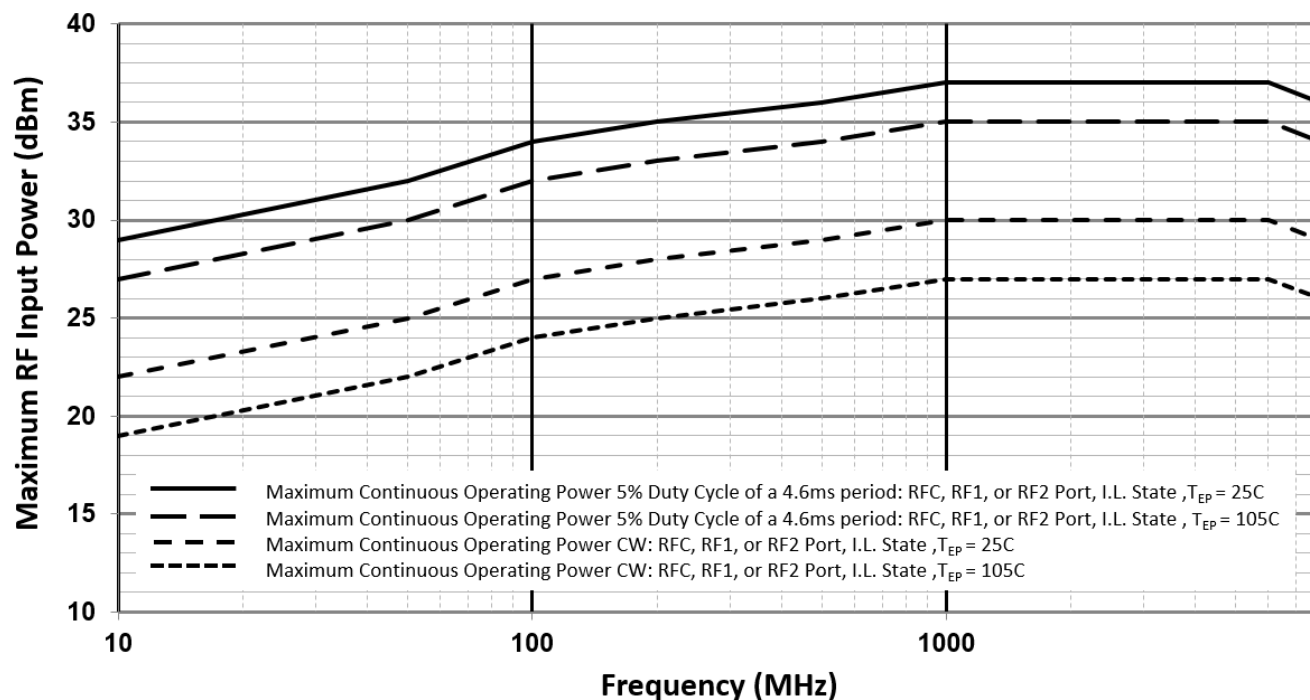

Figure 3. Maximum RF Input Operating Power vs. RF Frequency ( $Z_S = Z_L = 50\Omega$ )
| RF Input Power [2] | P RF_CW    | CW, insertion loss state                            | See Figure 3       |         |         | dBm  |
|                               | P RF_PULSE | 5% duty cycle of 4.6ms period, insertion loss state | See Figure 3       |         |         |      |
- Levels based on:  $V_{CC} = 2.7V$  to  $5.5V$ ,  $100MHz \leq f_{RF} \leq 8GHz$ ,  $Z_S = Z_L = 50\Omega$ . See Figure 3 for power handling derating vs. RF frequency.
- The input 1dB compression point is a linearity figure of merit. Refer to the Absolute Maximum Ratings section and Figure 3 for the maximum RF input power.